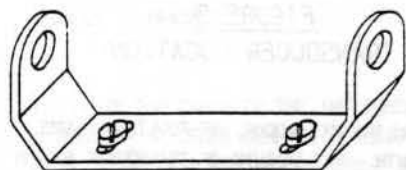

FIGURE 1
4. IF USING THE WOOD SCREWS PROVIDED, DRILL PILOT HOLES (#28 DRILL OR $9/64"$ DRILL) $1/2"$ DEEP. TIGHTEN THE STATIONARY BRACKET TO THE MOUNTING SURFACE (SEE FIGURE 1).